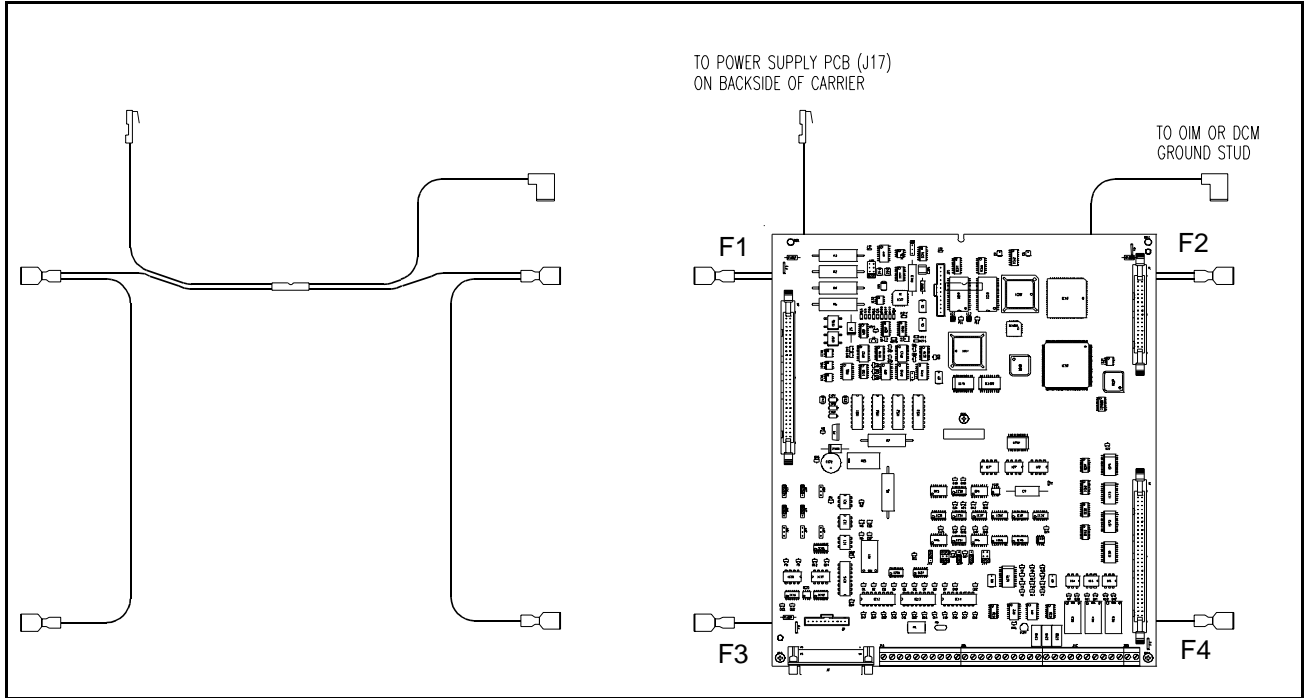

Figure 6 – Attaching the Grounding Harness to the Regulator Board
- Step 2. Lay out the grounding harness provided with the kit as shown in figure 6. Attach the 4 connectors to the spade terminals (labeled F1 through F4) in each corner of the Regulator board.
- Step 10. Install the double spade terminal on the OIM/DCM ground stud. Connect the right angle spade connector (shown in figure 6) to the OIM/DCM ground stud.